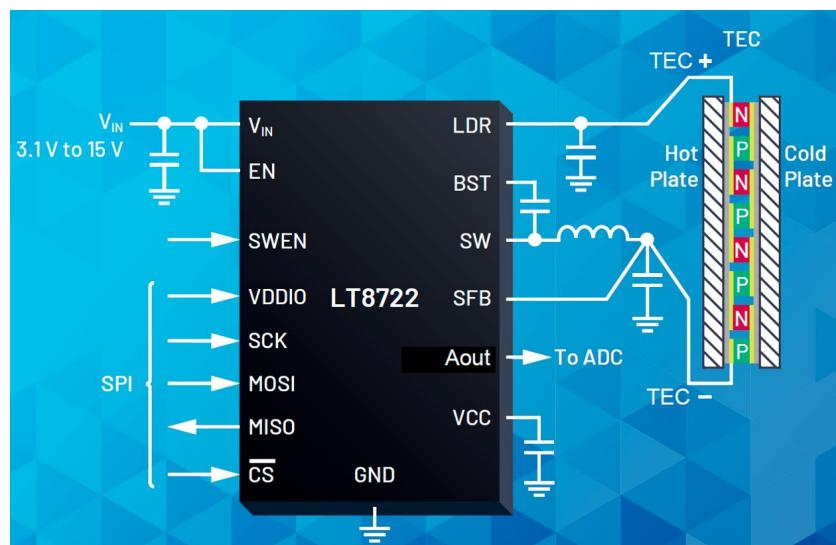

Figure 2. TEC Load Connections
- b. Connect to TEC load as shown in Figure 2. TEC+ and TEC- correspond to the DC3145A banana jacks with the same labels.